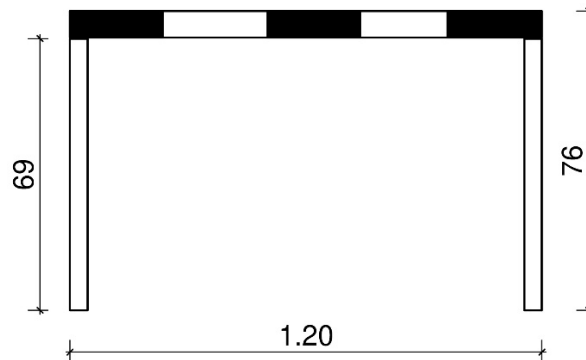

Figure 2: Dimensions of the hurdle
- 50 metres from the starting line, hurdles or other obstacles of the same dimensions (according to Fig. 2) are to be set up on the right and left of the running track. Three standardised binding ropes are placed above the right-hand hurdle.